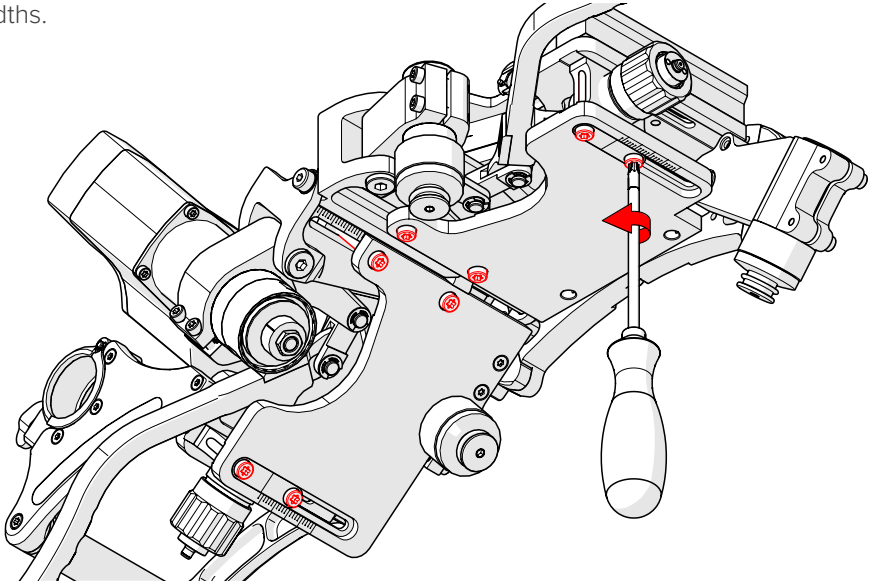

Fig. 67 - Loosen band adjustment screws
1. Loosen the eight width adjustment screws using the T30 Torx driver (Fig. 67).